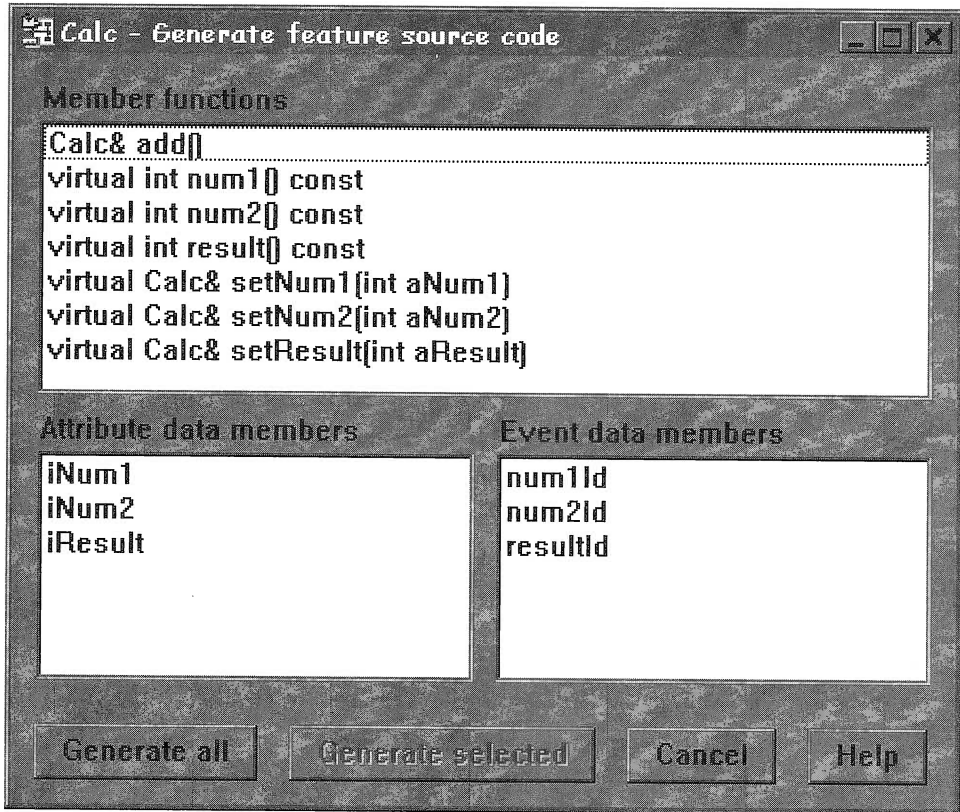

Figure 59: Generate feature source for the Calc part
- ❑ Now select **File, Save and Generate**, and **Feature source...** from the menu bar, see Figure 59. In this panel you can select the actions, attributes and events to be generated or generate all the part features.